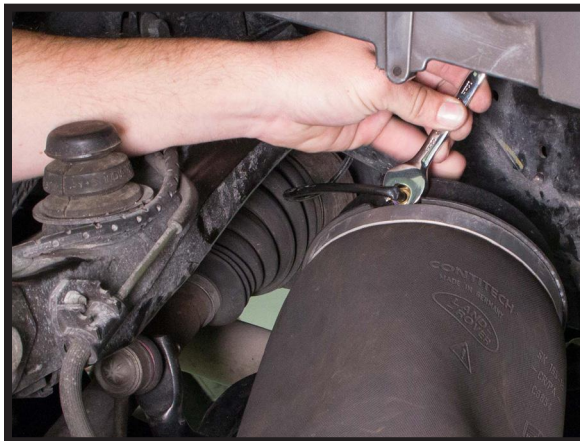

FIGURE 29
5. AFTER BOTH UPPER AND LOWER RETENTION FASTENERS ARE REMOVED YOU CAN PULL THE AIR SPRING LOOSE AND DISCONNECT THE AIRLINE. (FIGURE 29)